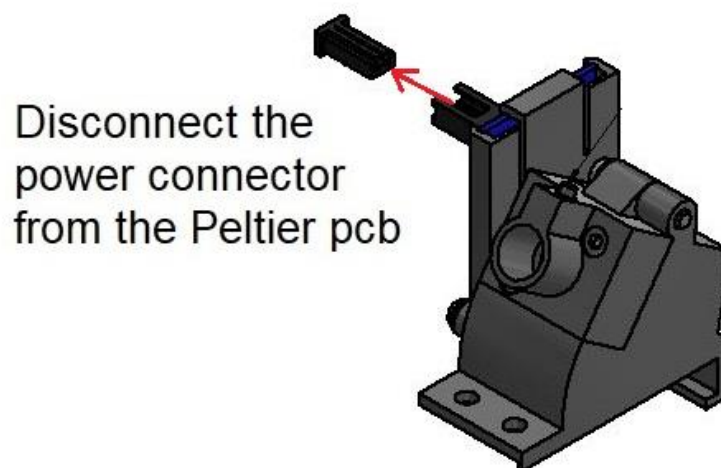

Figure L-3 Disconnecting the power connector from the Peltier pcb
3. Locate the UV source assembly and disconnect the power connector from the Peltier pcb as shown in figure L-3 below.